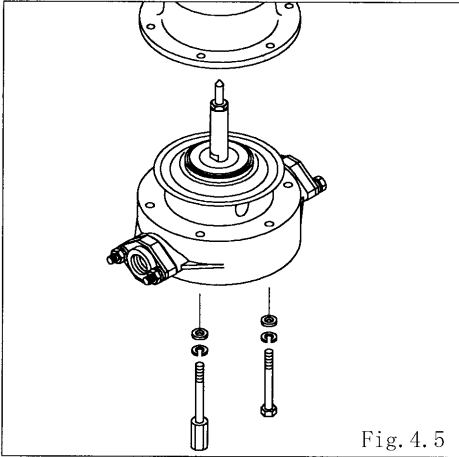

Fig. 4.5
- Remove the 6 out chamber locking bolts and studs respectively, and remove the out chamber. (AD-10, AD-25) [Fig. 4.5]
- Remove the 8 out chamber locking bolts, studs and nuts respectively, and remove the out chamber. (AD-40, AD-50) [Fig. 4.5]
- Pull out the diaphragm, center disk and center rod from the main body. [Fig. 4.5]